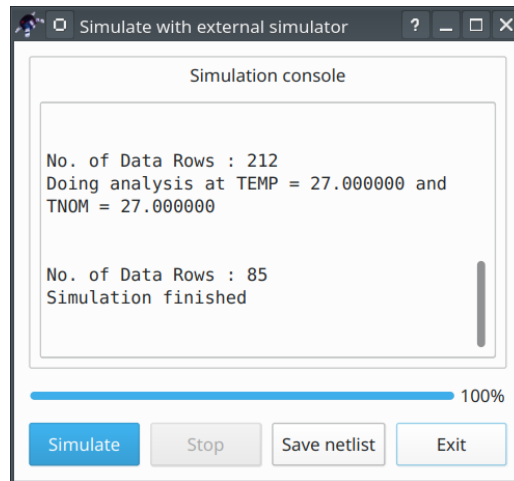

Figure 8: Simulation dialog
- **Step 6:** simulate the schematic. Press the *Simulation* -> *Simulate* or press the `F2` hotkey on the keyboard. The dialog window containing the simulator log messages will appear shortly (Fig. 8). This dialog window contains the simulation console where the messages from the Ngspice are shown.